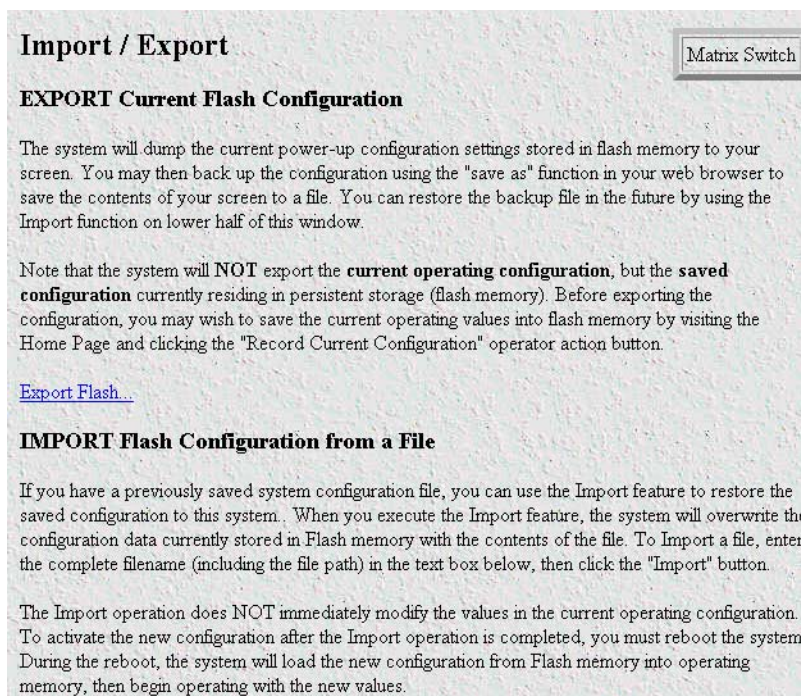

Figure 69. Import/Export page
2. On the Configuration Menu pane, click the *Import/Export* hyperlink to display the **Import/Export** page (figure 69).
2. To import a saved configuration, connect your Web browser to the Administration Pages, then click on *Import/Export* under the Configuration Menu to display the *Import/Export* page (figure 69 on page 95).